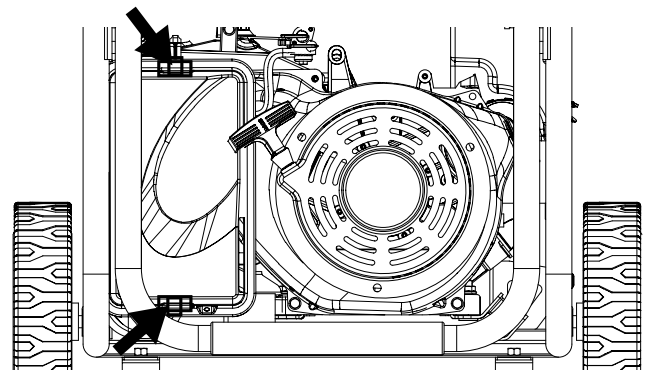

Figure 21 - Clips on air filter
3. Unclip the clips on the top and bottom of the air filter cover (Figure 21).